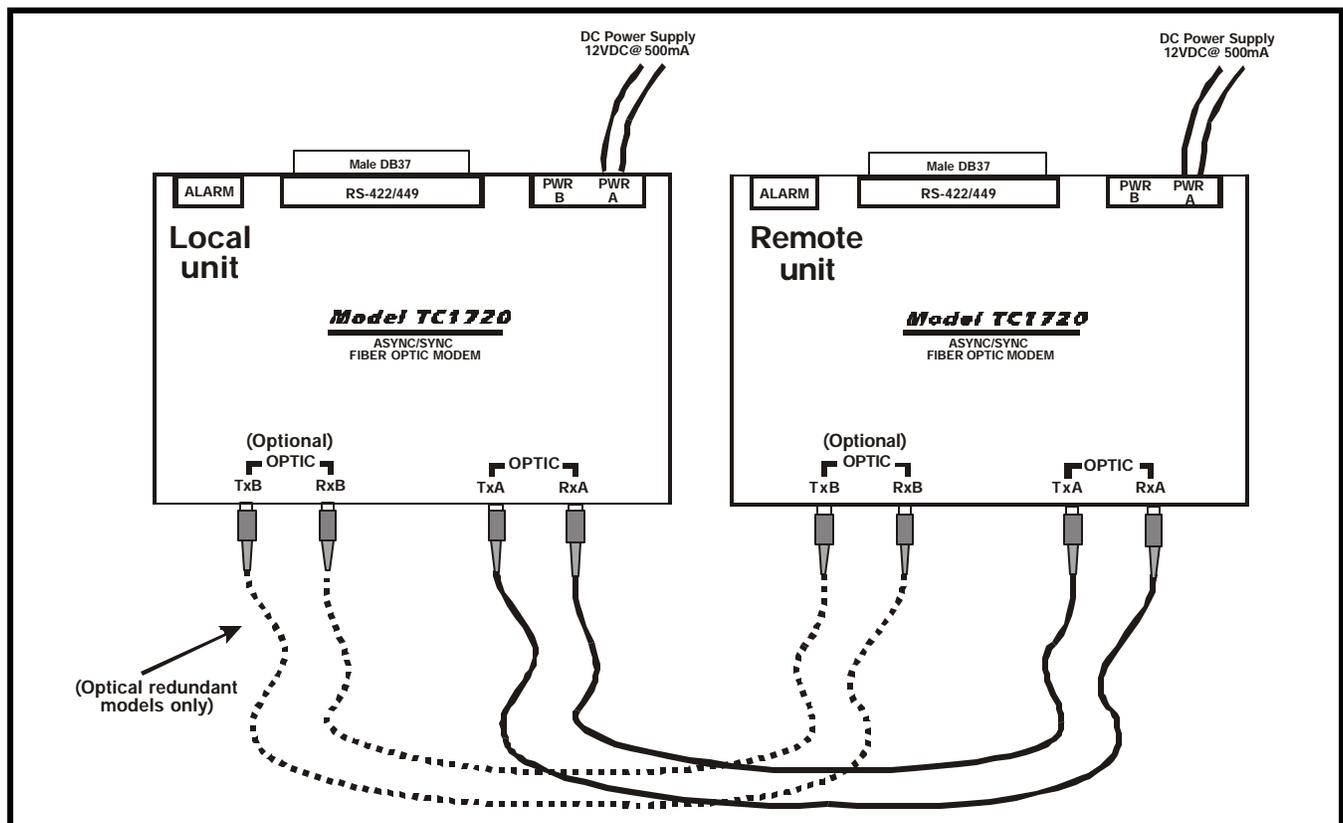

Figure 10. Signal Generator Bench Test Connection Diagram
1. Setup the bench test as shown in Figure 10.